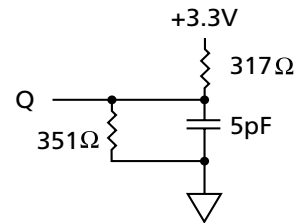

Figure 2
- The load used for V_{OH}, V_{OL} testing is shown in Figure 2. AC load current is higher than the shown DC values. AC I/O curves are available upon request.
4. Output loading is specified with C_L = 5pF as shown in Figure 2.